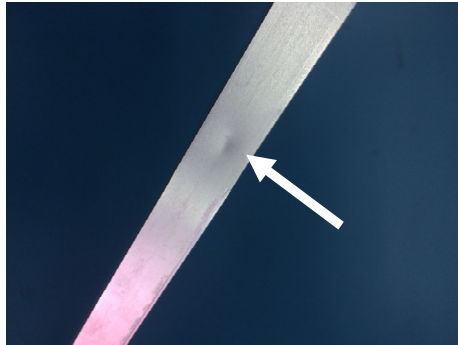

Figure 7 Tuning Dent Displayed
- Evidence of tuning dents on the flat sections of the TX Waveguide Filter Assembly may be present. These dents will have soft edges (see Figure 7). The small soft edged dents are for the tuning of the TX Waveguide Filter Assembly to optimize performance of the component.